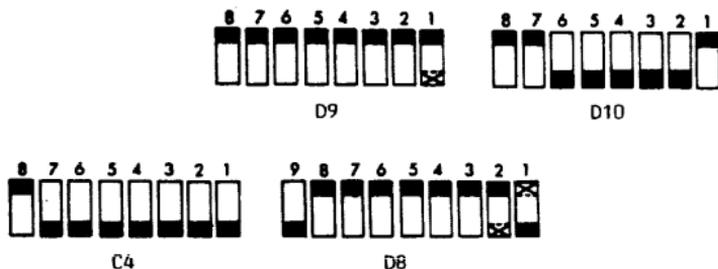

FIGURE 2
- Set the 64 character switches (shown in black) as in Figure 2.